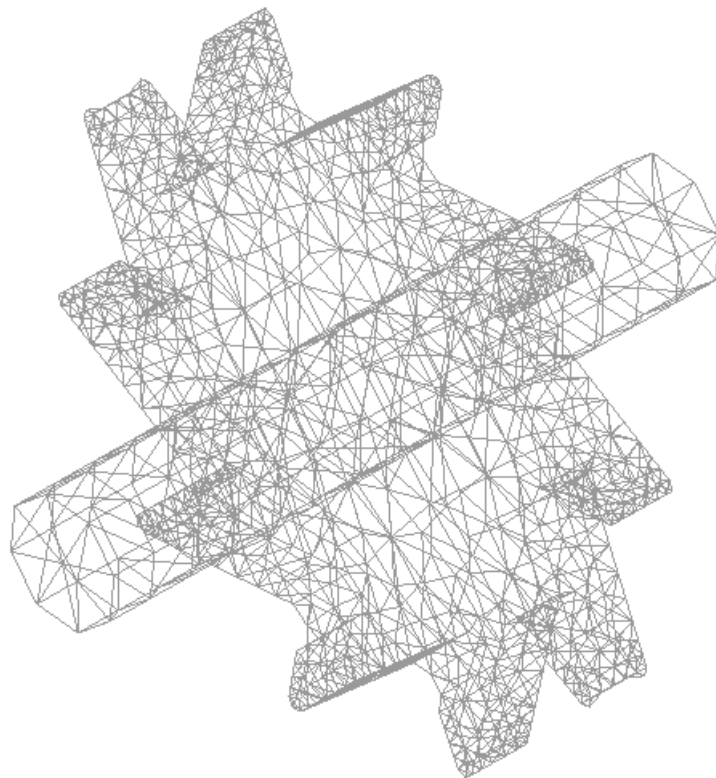

Figure 31. Mesh visualized with the Mesh->View mesh boundary option
- 4 . Use the **Mesh->View mesh boundary** option to see only the contour of the volumes meshed without the interiors (Figure 31). This visualization mode may be combined with the various rendering methods.